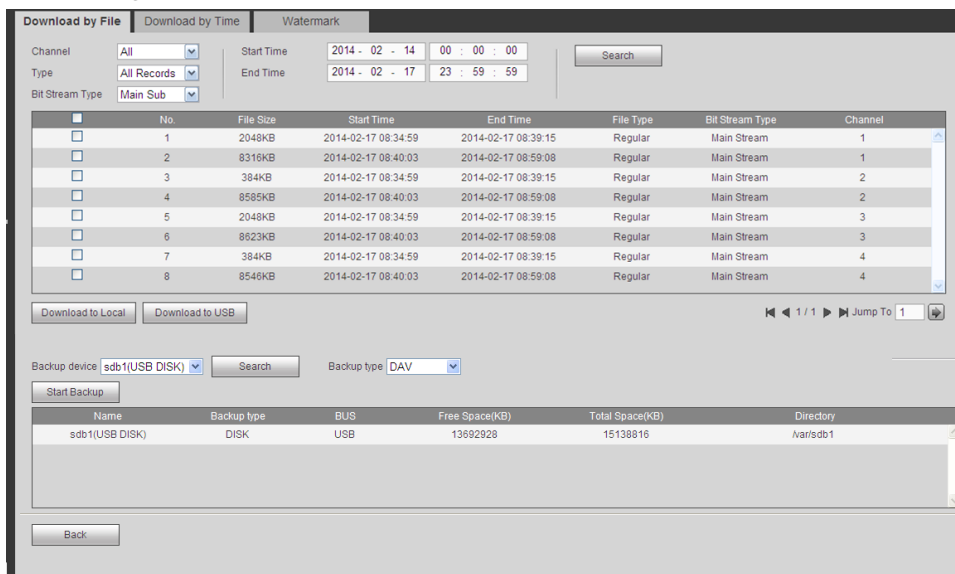

Figure 5-184
2. Click Download to USB button, you can see the following interface. See Figure 5-184.